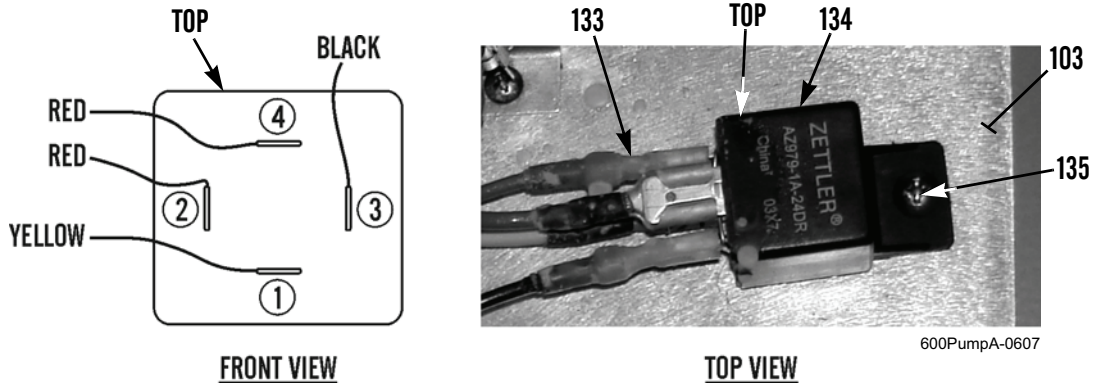

Figure 35. K2 Fuel Solenoid Relay.
1. Remove four wires (Figure 35, Item 133) from relay (Figure 35, Item 134).
2. Remove screw (Figure 35, Item 135) and relay (Figure 35, Item 134) from inside circuit board panel (Figure 35, Item 103).
1. Install relay (Figure 35, Item 134) on inside circuit board panel (Figure 35, Item 103) with screw (Figure 35, Item 135).
2. Install four wires (Figure 35, Item 133) on relay (Figure 35, Item 134).